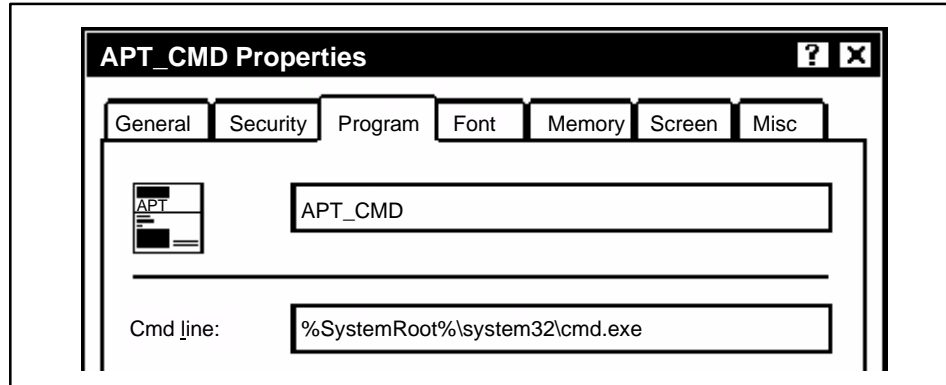

Figure E-3 APT_CMD Properties: Program
- Click the **Program** tab (Figure E-3), and change the entry in the “Cmd line” field to the following: %SystemRoot%\system32\cmd.exe